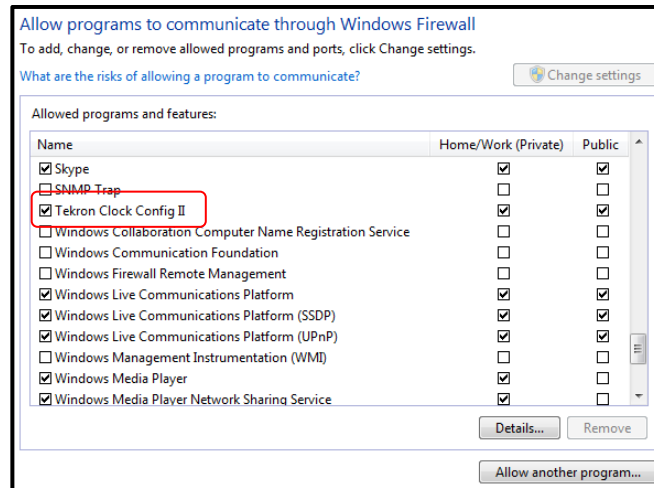

Figure 91 - Configuration software added to allowed programs list
9. Click the “Add” button. “Tekron Clock Config II” should now appear in the allowed programs list. Refer to Figure 91.